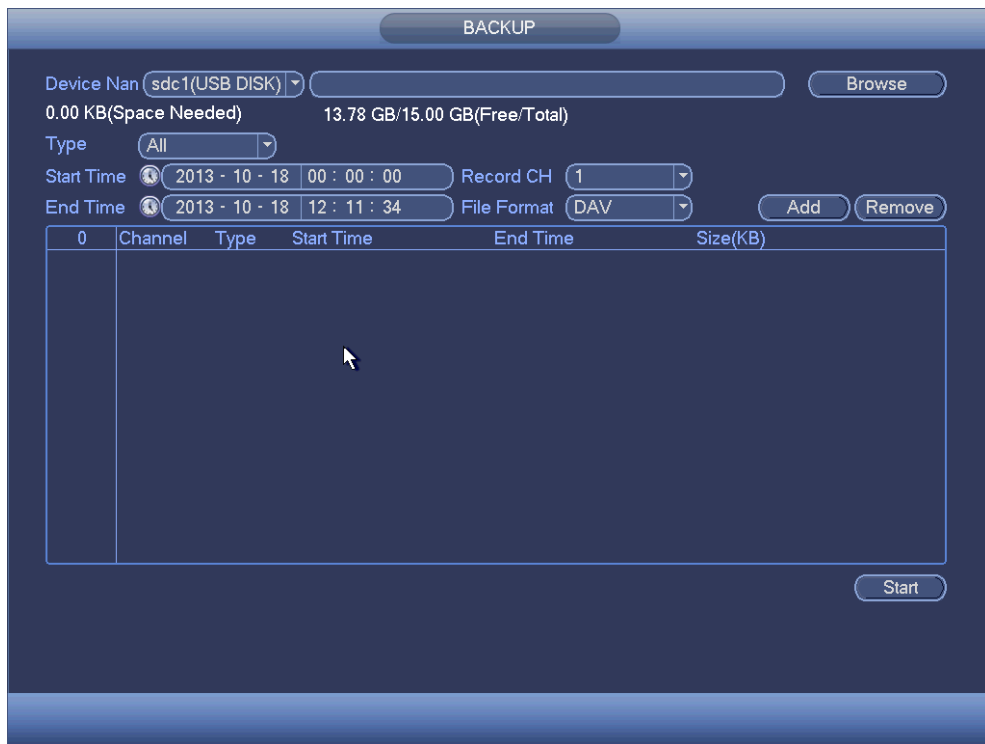

Figure 3-234
- b) From Main menu->Backup, you can go to the Backup interface. See Figure 3-234